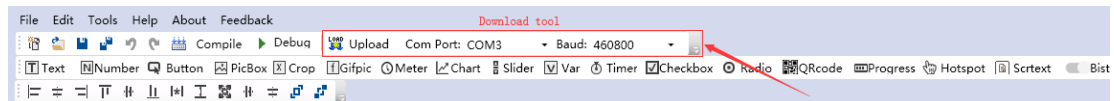

Figure 5-7
- 1) Set the serial port number and baud rate at the toolbar position as shown in Figure 5-7;